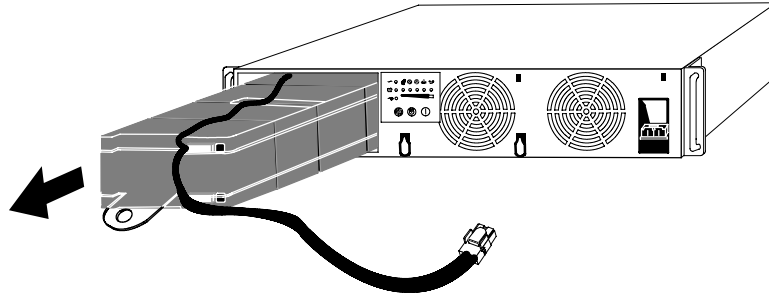

Figure 31. Removing the Battery
4. Pull the battery out onto a flat, stable surface (see Figure 31). See "Recycling the Used Battery or UPS" on page 52 for proper disposal.